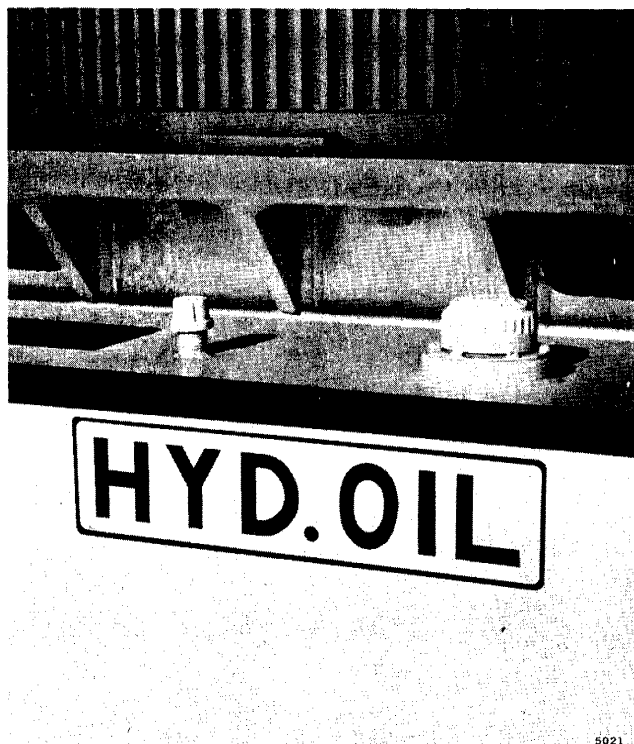

Figure 3-2. Hydraulic Reservoir Servicing Points
1. Remove hydraulic reservoir drain plug. (Refer to Figure 3-2.) After oil stops flowing from drain port, allow an additional three minutes for side walls of tank to drain.